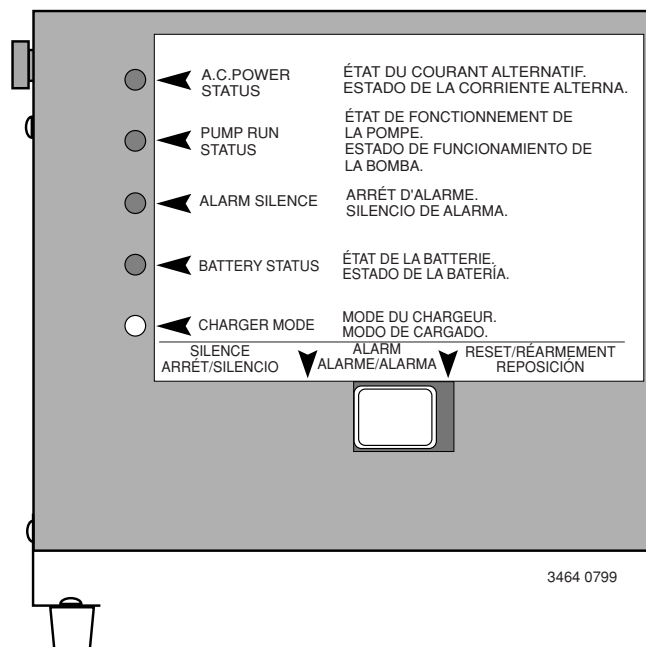

Figure 9 – A5500 LED Panel
3. With the charger properly connected and plugged in, the panel on the front of the charger will show one or more of the following conditions (See Figure 9).